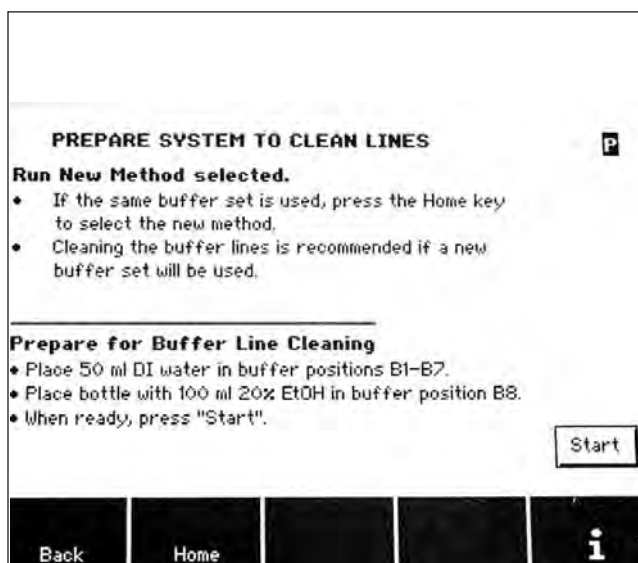

Fig. 6.41. Prepare System to Clean Lines screen displays when running a new method to clean buffer lines if a new buffer set is being used.
1. Touch the Run New Method button in the toolbar at the bottom of the End of Run screen. You will proceed to the Prepare System to Clean Lines screen (Figure 6.41).